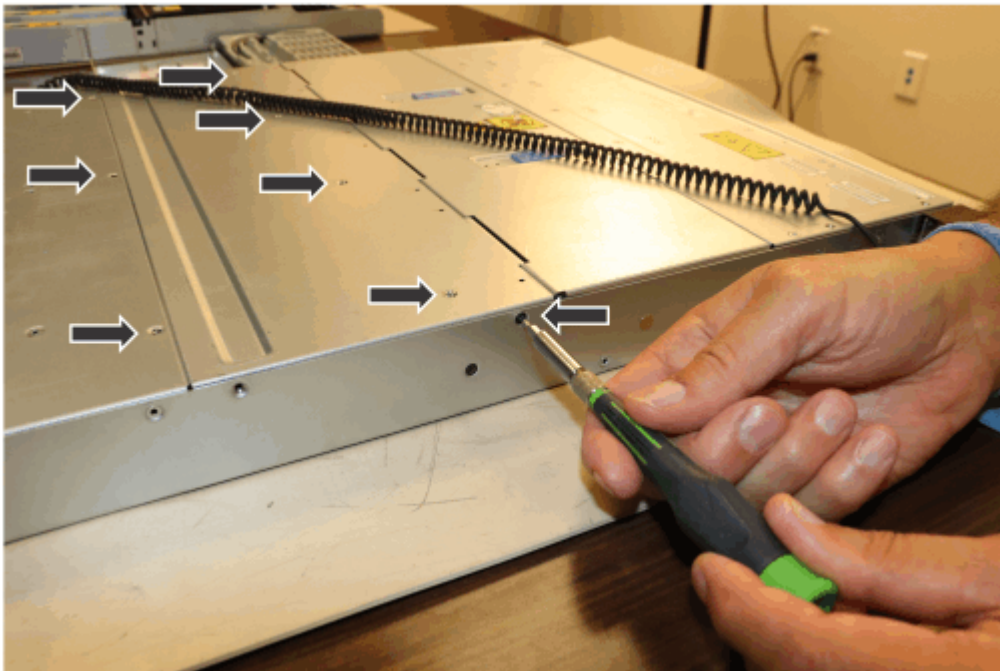

Figure 84. Enclosure fan cover mounting screws
- a) Using a T8 Torx driver, remove the nine mounting screws, as shown in Figure 84 on page 143.
3. Place the new fan cover onto the enclosure, and reinstall the nine screws to secure the cover, as shown in Figure 84 on page 143.